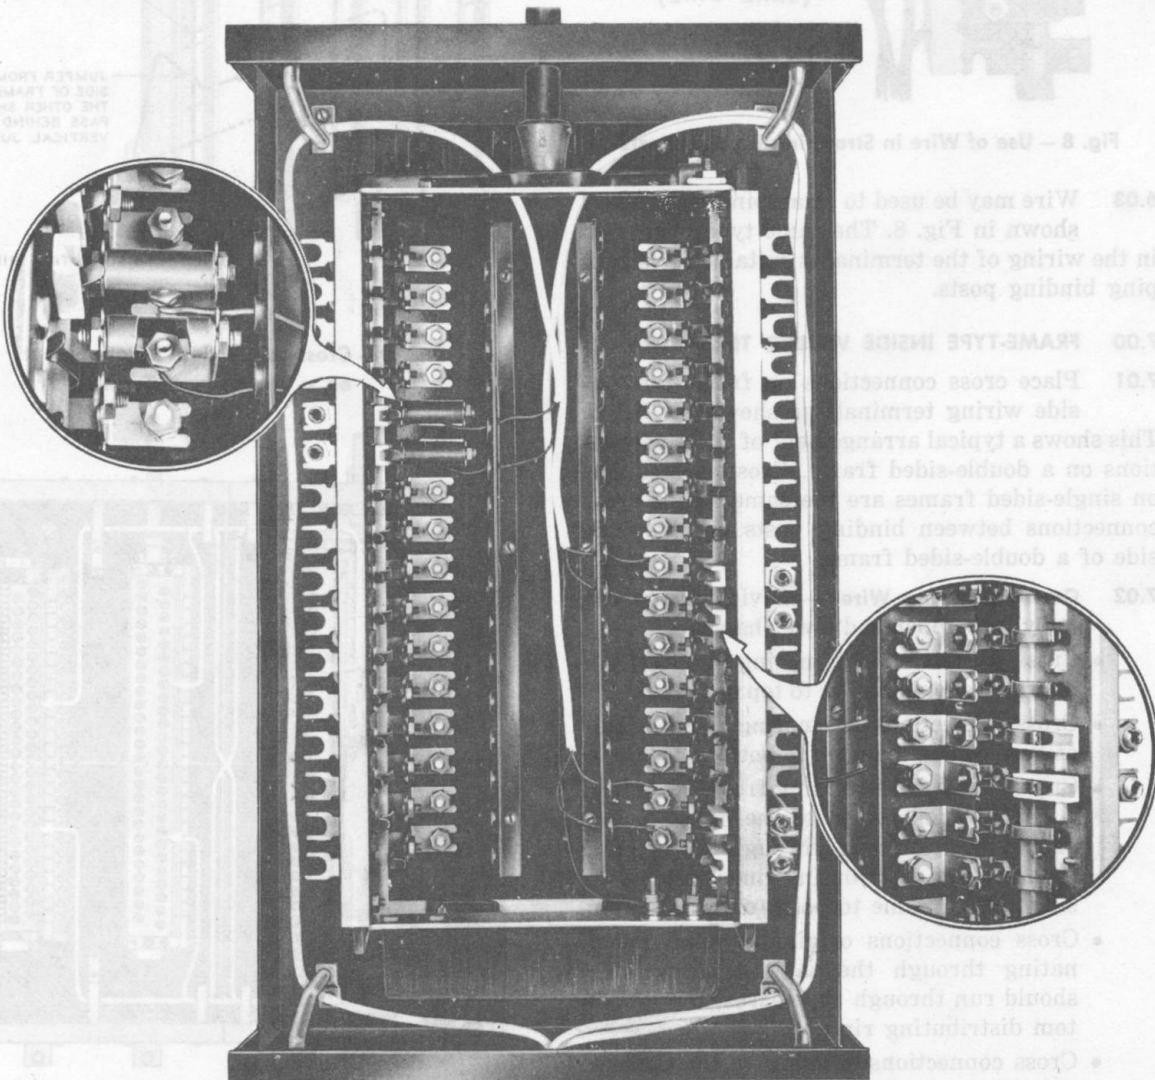

Fig. 11 — Typical Station Wiring of LC-type Terminal
8.03 The LC-type terminal is equipped with an LA-type fuse chamber. No space is provided for binding post chamber or connecting block within the terminal. Station wires may be terminated on the binding posts of the fuse chamber shown in Fig. 11. Place 60-type fuses as specified in the section entitled Protection and Fusing of PBX Trunks, Tie Trunks, Ringing and Battery Feeders, and Off-premises Extensions.
8.05 The 2-piece clip for mounting the 60-type fuse on the front of LA- and LB-type fuse chambers is joined by a P-290225 connector as shown on the right in Fig. 11 and 12. When a
60-type fuse is used, the connector is removed and stored in the bottom of side panel. The portion of the clip which is toward the center of the chamber should be removed from the binding post and re-installed to form a mounting for the fuse as shown on the left in Fig. 11 and 12.